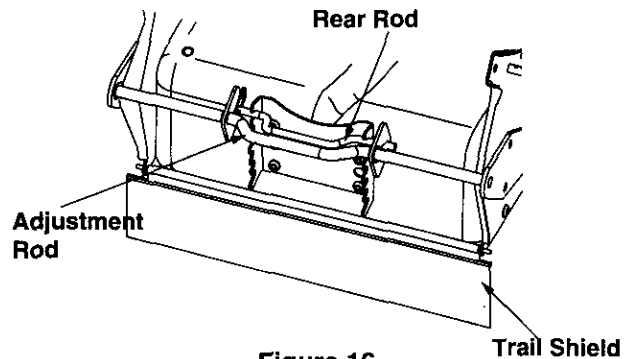

Figure 16
- Move rods upward or downward to any one of the six height positions and reinsert. See Figure 16.